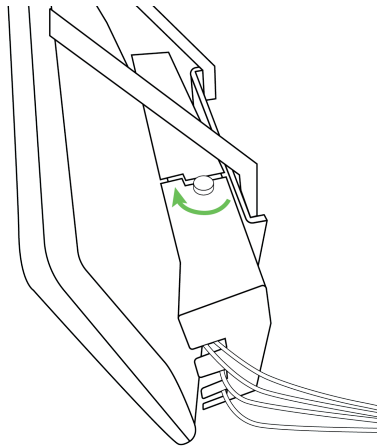

Figure 6-31. Securing the USB port cover
5. After plugging in all peripherals into the correct ports, install the USB port cover and secure it with the supplied thumbscrews (Figure 6-31).